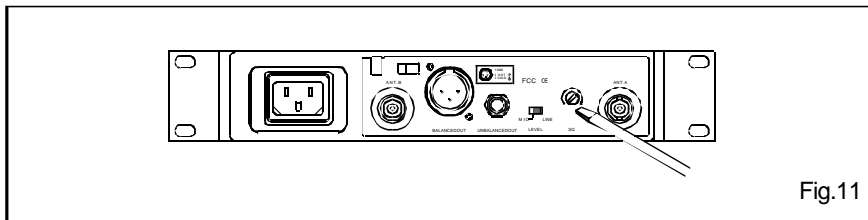

Fig.11
2. If RF LED indicators (2) of the receiver light on before switches on the microphone or transmitter, it indicates the receiver is receiving interference signals. This system has Pilotone and NoiseLock dual-squelch features and no noise output will occur. If multiple channels are used and both RF and AF LEDs glow and interference noise appear, simply adjust the Squelch controls (10) clockwise until AF signal indicators to extinguish. (Fig. 11). However, by adjusting the squelch controls, it affects the sensitivity level of the receiver, therefore, shorten the operating distance and decreases the stability.
3. Under normal circumstances, the RF indicator lights up when a microphone or transmitter is turned on near the receiver to indicate the receiver is ready for normal operation. Once sound to the microphone and the AF LED indicators (3) will glow according to the strength of sound level. If no LED glows or no sound outputs, the system is not function properly, thus it must be checked.